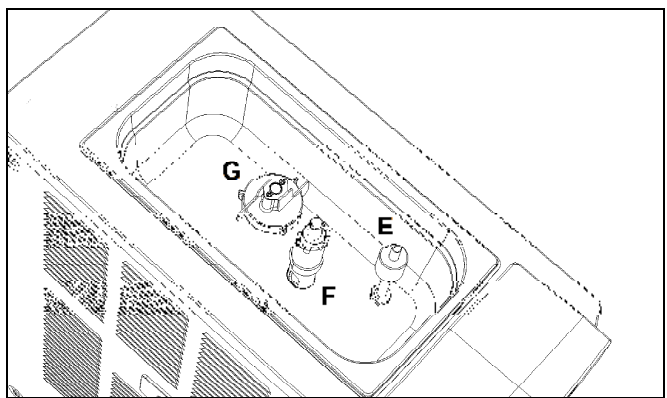

Fig. 33
- Once all the components of the freezing cylinder have been refitted, place all components of the top tank in the same position they occupied before the sanitisation (fig. 33).